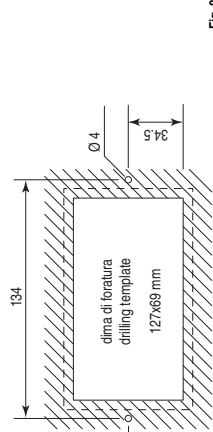

Fig. 8
- These terminals have been designed for panel installation; the drilling template measures 127x69 mm and has 2 circular holes, 4 mm in diameter, as shown in Fig. 8. For installation, proceed as follows: